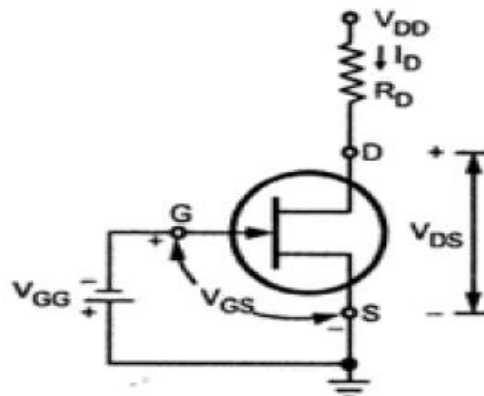

Fig. 4.9 Simplified Fixed bias Circuit
- Simplified the fixed bias circuit as shown in the Fig. 4.9.